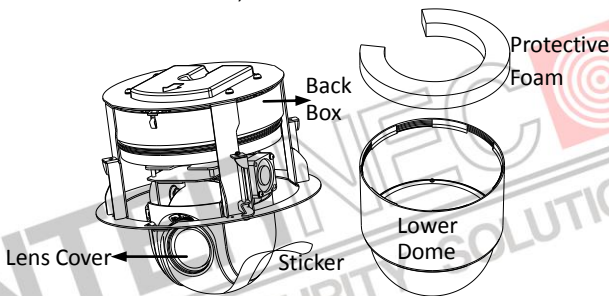

Figure 2-7 Remove the Protective Accessory
1. Rotate the lower dome counterclockwise to separate it from the back box as shown in Figure 2-7.
1. Rotate the lower dome counterclockwise to separate it from the back box. Refer to the Figure 2-7.